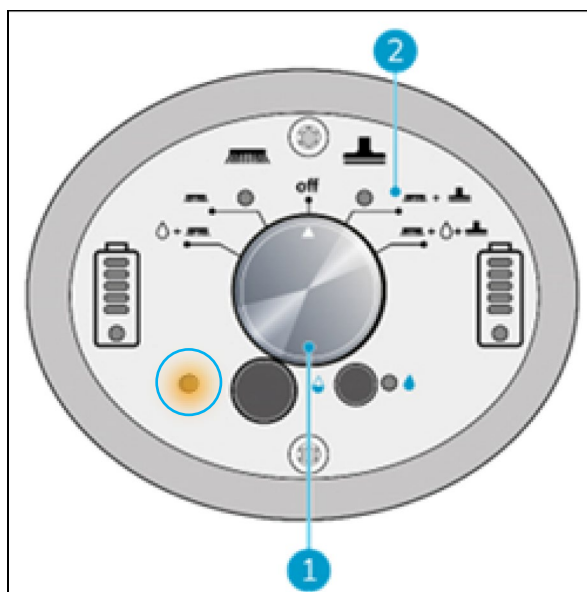

Figure 23
1. The angle warning indicator will flash at the blue circled area as soon as the operator will go below 32 degrees. The indicator light will turn on and the water recovery will be paused. When the handle is raised above 32 degrees the vac motor will restart after 5 seconds. (figure 23)